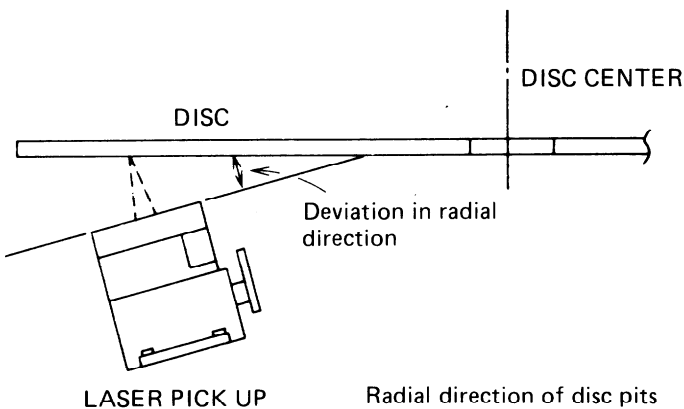

Figure 32
| 3    | PU Tangential Direction Adjustment (Angle Adjustment) | AC milivoltmeter Max.                 | TYPE A     | PLAY             | TE, B                                   | Pick-up lower side (C).                           | Figure 32, 33, 34     | Keep unit under the same condition as for Step 2 just finished. |
| 4    | PU Radial Direction Adjustment (Angle Adjustment)     | AC milivoltmeter Max.                 | TYPE A     | PLAY             | TE, B                                   | Pick-up lower side (A).                           | Figure 32, 33, 34     | Same as above   |